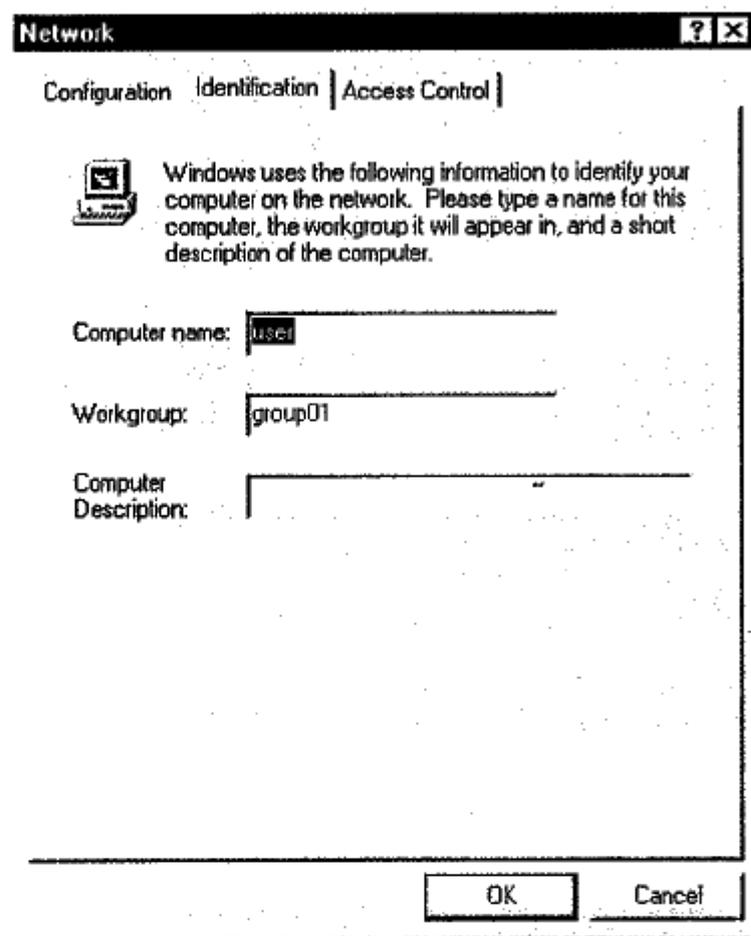

Figure 4-6
9. If it is the first time for you to setup a network on this computer, you need to select "Identification" tab and enter an unique name and a working group name as shown in Figure 4-6, and then click "OK". If you would like to share files with other person, make sure you have the same workgroup name.